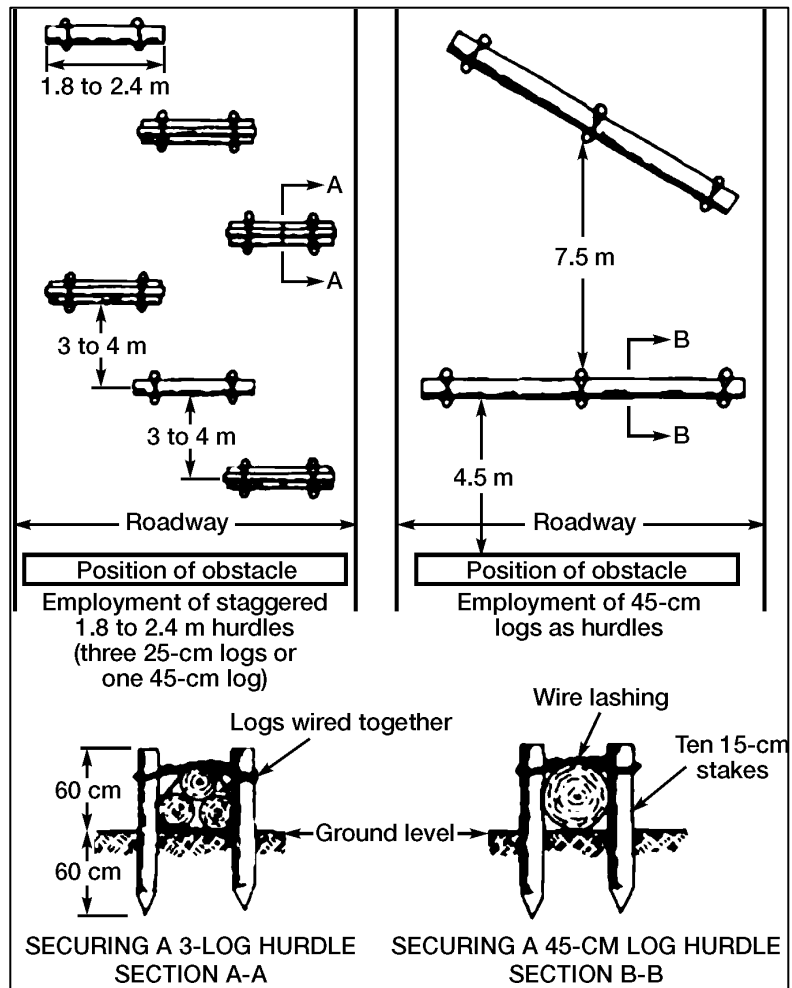

Figure 052-195-3066-10. Log Hurdles
(2) The horizontal logs (four per wall) are cut to the roadway width.
(3) The vertical logs are emplaced 1.8 meters apart and tamped into place.
(4) The horizontal logs are emplaced and posts, logs, and braces are lashed with wire.
(5) The interior of the crib is filled with earth material taken from the enemy side of the obstacle.
c. Direct the construction of a log hurdle obstacle (figure 052-195-3066-10). Ensure—